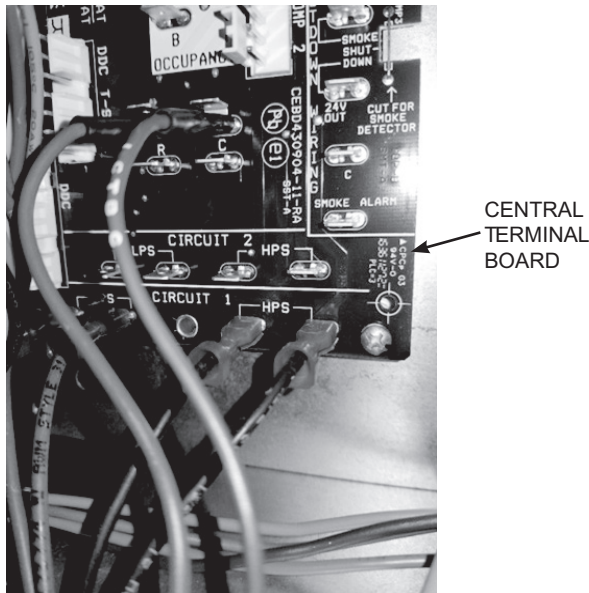

Fig. 11 — Connect Red and Brown Wires to Central Terminal Board
15. Connect the red and brown wires from the Jade controller harness to the CTB. See Fig. 11 and page 9. The red wire connects to "R" on the CTB, and the brown wire connects to "C".